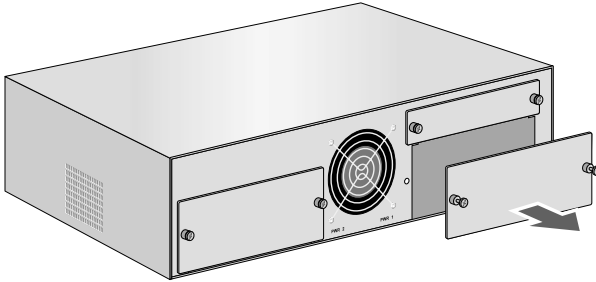

Figure 17 Removing the Main Power Supply Blank Faceplate
1. Remove the PWR 1 blank faceplate from the back of the chassis by loosening the two thumbscrews, as shown in Figure 17.